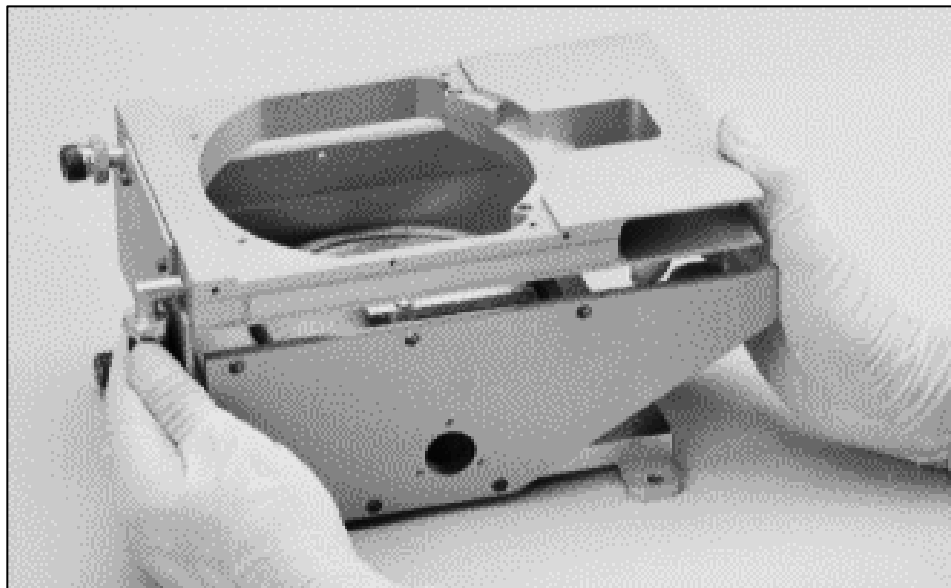

Figure 5-9. Removing the Coil Housing
Step 13: You should now be able to lift the coil housing free of the pole pieces, as shown in Figure 5-9. If not, further loosen the bottom row of screws that secure one of the pole pieces to the source base plate.